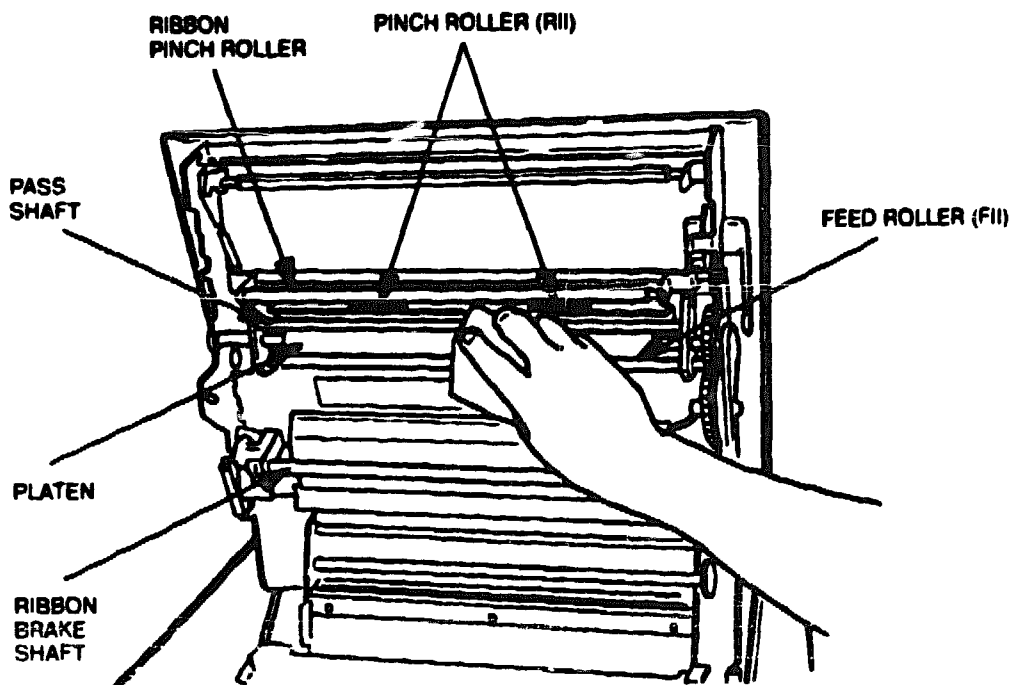

Figure 4-1 Platen, Rollers, and Shafts
3. Using a soft, lint-free cloth dampened with isopropyl (90%) alcohol, wipe the following surfaces inside the printer (see Figure 4-1).
4. As shown in Figure 4-1, wipe the surface of the platen with the cleaning cloth.